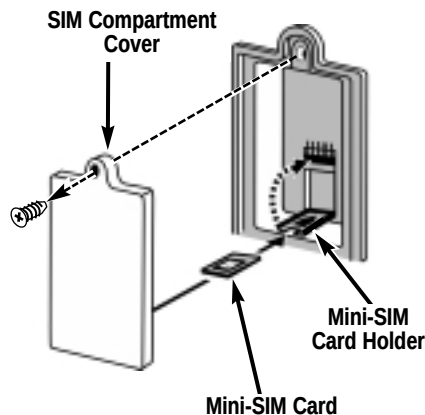

Figure 12 - Mini-SIM Card Installation
- 5) Gently insert the mini-SIM card in the slot of the SIM card holder - **See Figure 12.**